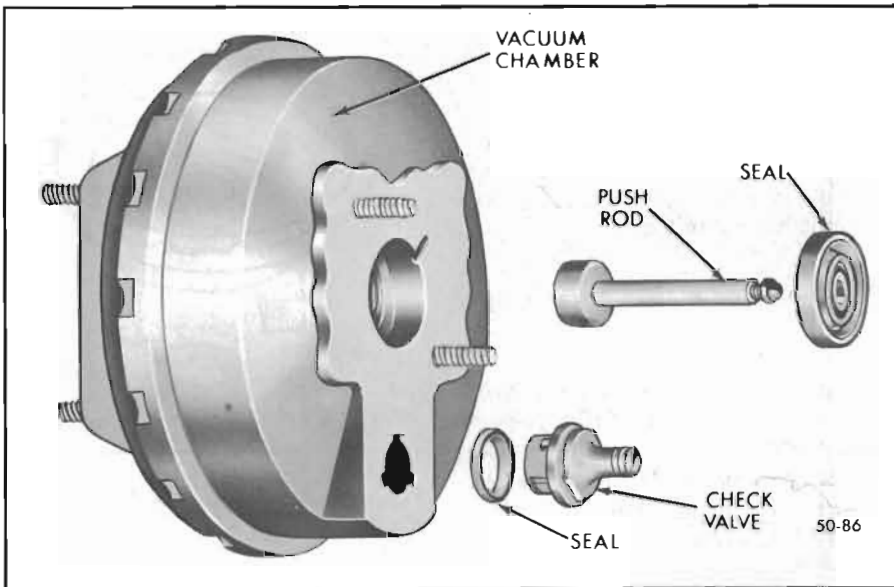

Figure 50-86—Removal of Seal, Push Rod and Check Valve
6. From the front shell, remove the seal, and if defective, the vacuum check valve. See Figure 50-86.